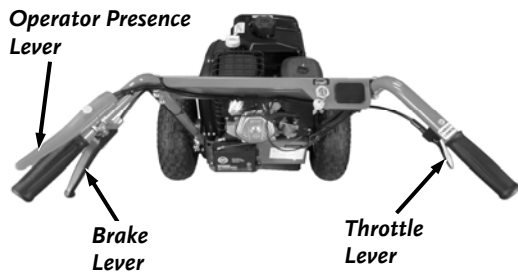

Figure 10
1. Familiarize yourself with all of the Control Levers and their functions before operating the Stump Grinder (**Figure 10**).
1. Slowly release the Throttle Control Lever to the idle position (**Figure 10**).